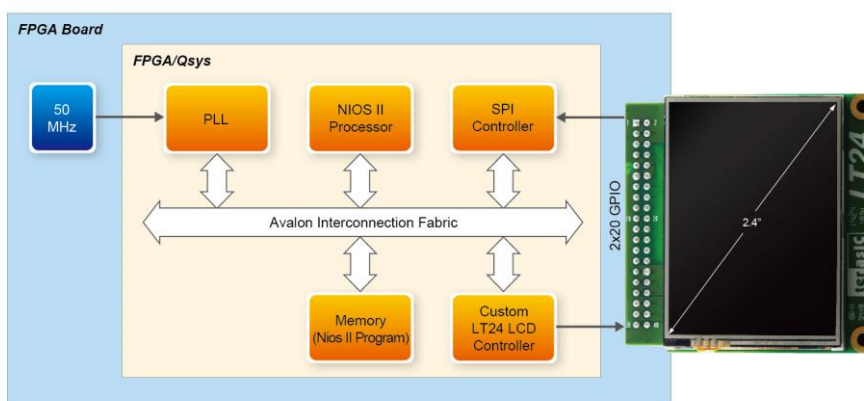

Figure 4-3 System block diagram of Painter demonstration
Figure 4-3 shows the system block diagram of Painter demonstration. Terasic custom Qsys component - **LT24 LCD controller** is used to display 240(H) x 320(V) image. Its source code is located in the “/ip/LT24_Controller” folder of Painter demo project. Qsys built-in SPI controller is used to communicate with the AD7843 ADC via SPI interface to retrieve data from the touch screen. The Nios II program handles touch event and image display. It is stored in either on-chip memory or external memory. The LCD module should be initialized before sending image data to the LCD for image display.